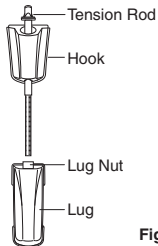

Fig.2
2. Assemble a Tension Rod and Hook as shown and hook it on the Hoop above a Lug then finger tighten the Tension Rod into the Lug Nut. Attach the rest of the Tension Rods/Hooks on this side of the drum (Fig.2).